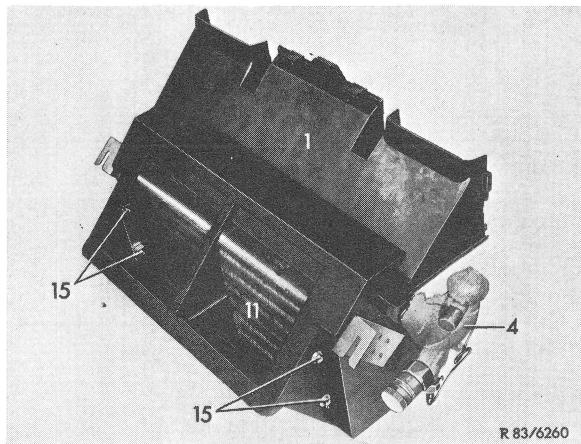

Figure 3
- 10 Unscrew four hex. screws (15) and remove evaporator (11) (Fig. 3).
12 Screw-on evaporator (11) in evaporator box by means of hex. screws (15) (Fig. 3).